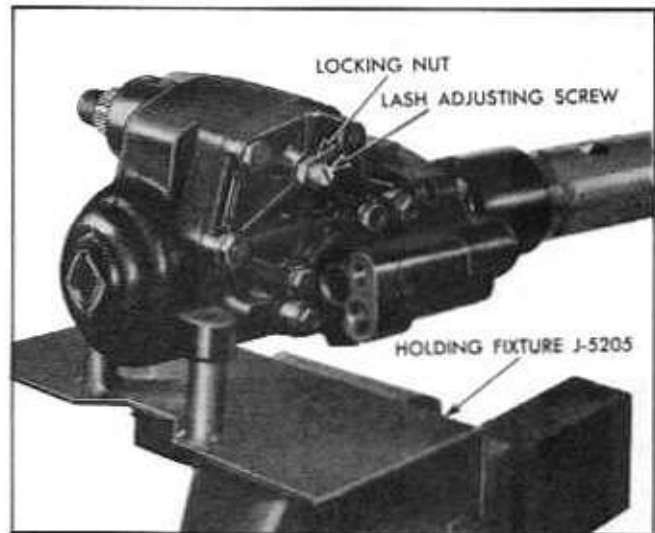

Fig. 9-25 Steering Gear Mounted on Tool J-5205
1. Mount unit on holding fixture J-5205 (Fig. 9-25).